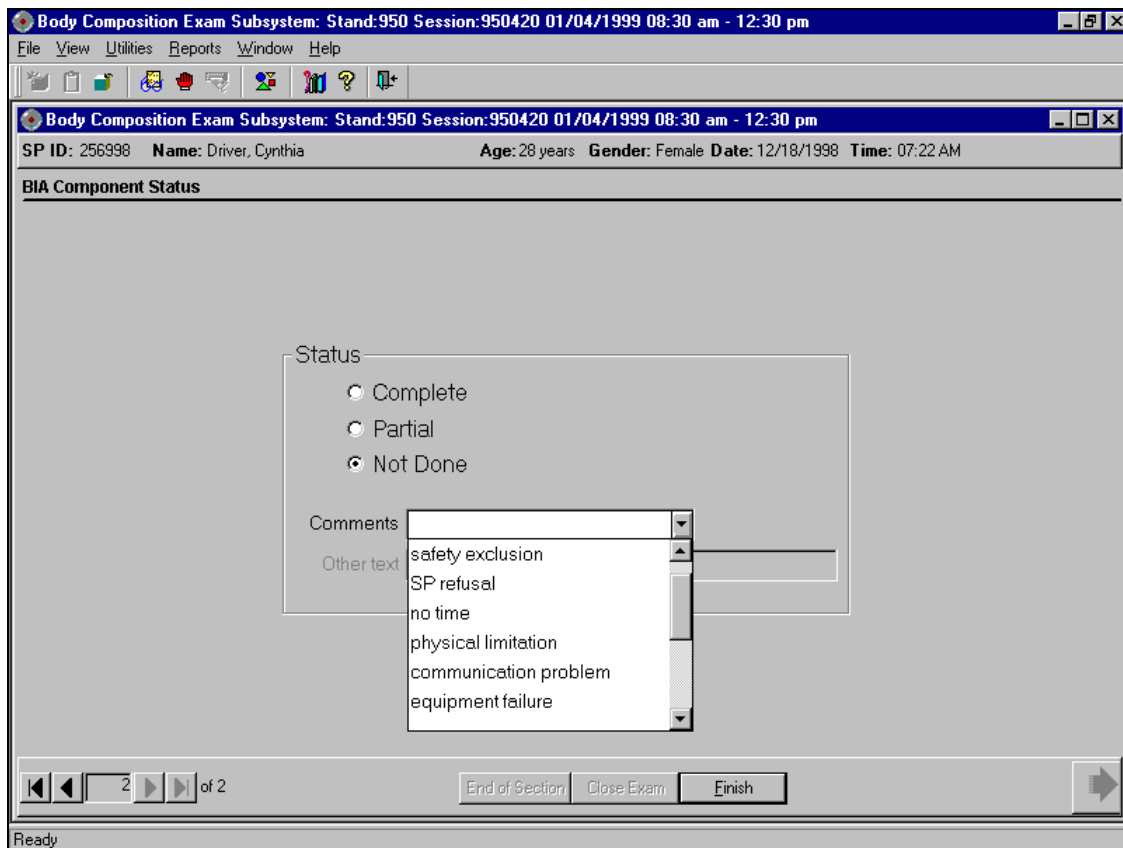

Figure 4-35. BIA component status (1)
- The comments in the drop down menu are shown in Figure 4-35: